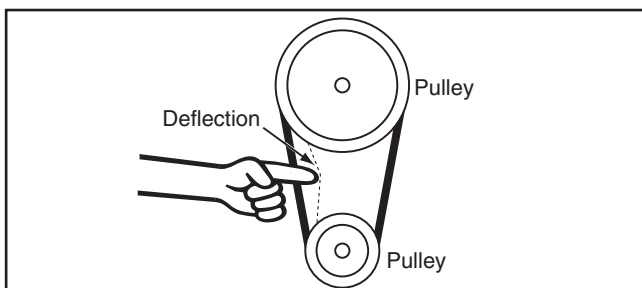

Figure 133. Checking belt deflection.
7. Check the belt tension by pushing on belt in the center, as shown in **Figure 133**, and noting the amount of deflection.